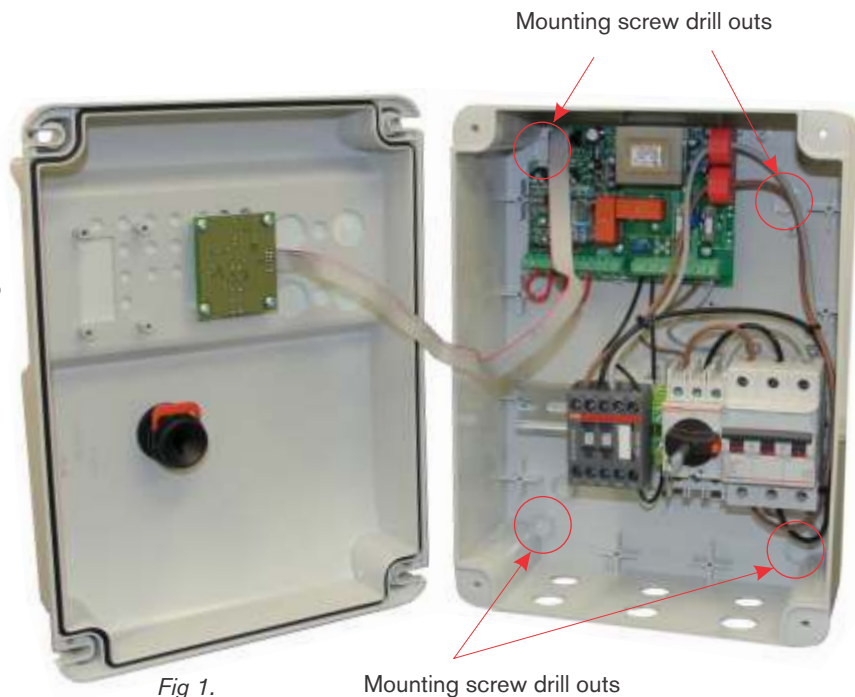

Fig 1.
- Drill out required mounting holes set into rear cover as indicated in Fig.1 at right